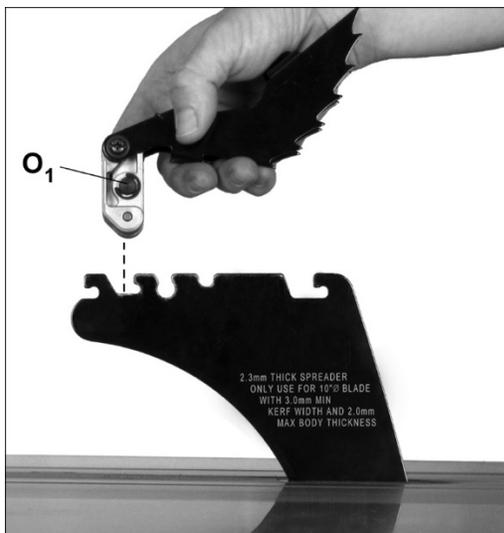

Figure 6-11
See Figures 6-11 and 6-12.
2. Push and hold button (O₁) on opposite side of the head to release the catch pin. Mount pawl assembly straight down, in the location shown in Figure 6-11.